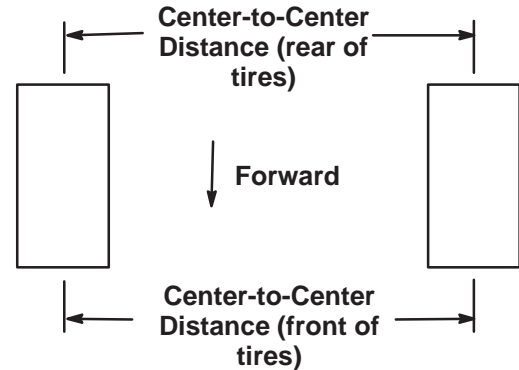

Figure 25
2. Measure the distance between both of the front tires at axle height (at the front and rear of the wheels) (Fig. 25). The front measurement must be equal to the rear measurement $\pm 1/4$ in. (6.4 mm).